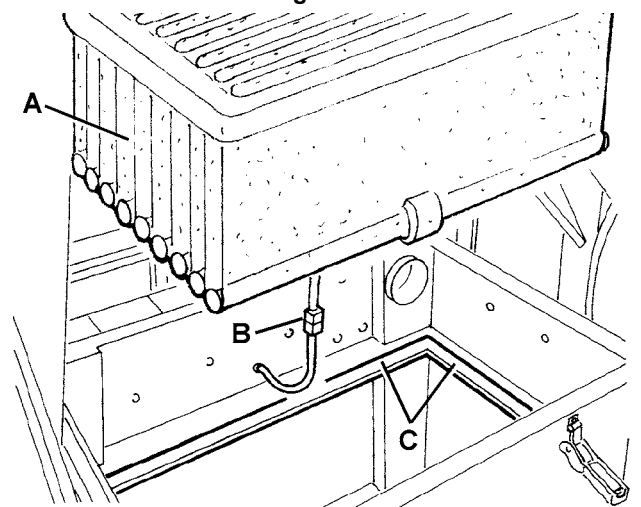

Figure 17
6. Disconnect the filter shaker connector (B, Fig. 17) and remove the dust filter (A).
14. If necessary, clean the filter compartment rubber gasket (C, Fig. 17) along its perimeter and check it for integrity. If necessary, replace it.